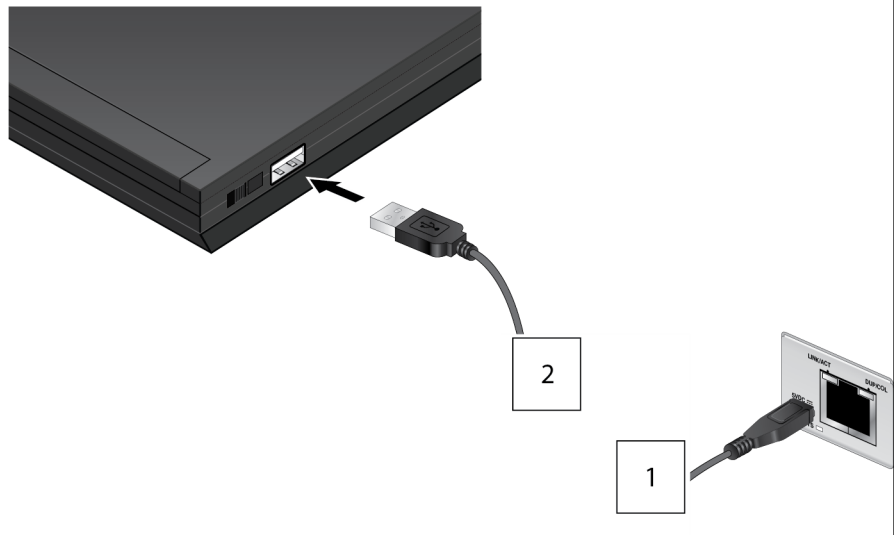

Figure 24. Connecting Power via USB Port
- Attach the other end of the USB cable to the USB port on a PC, as shown in Figure 24 on page 47.